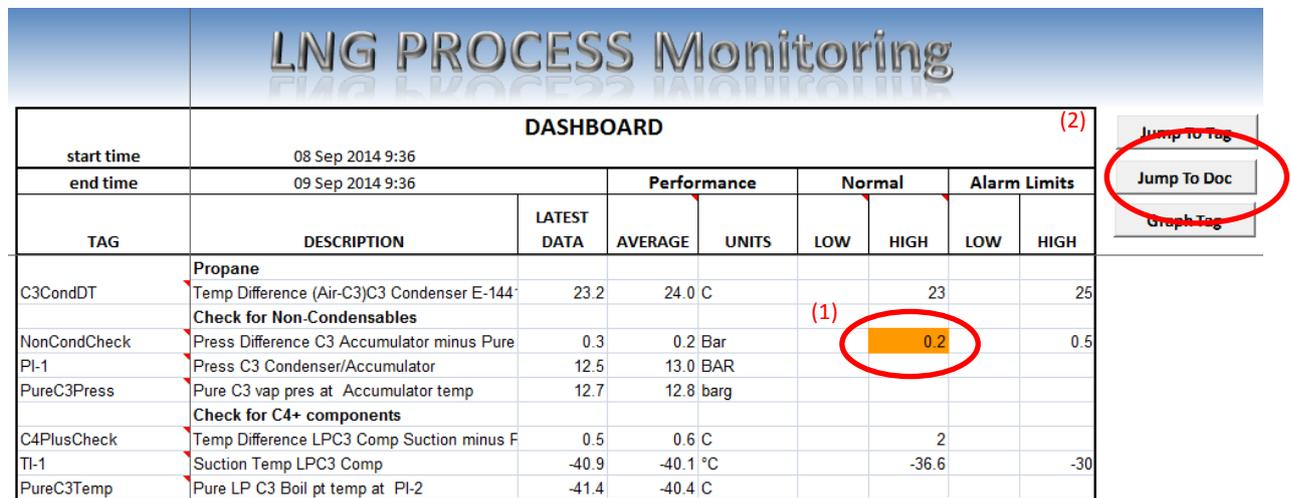
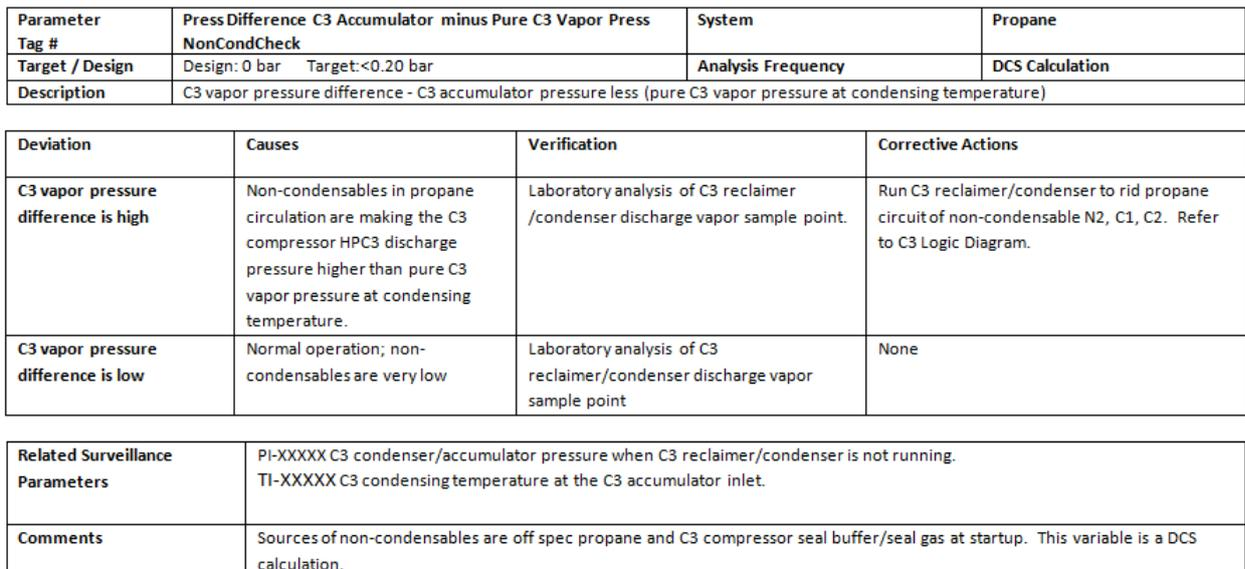

Figure 6
Figure 7
The following example shows how the tool can help to identify a problem in the C3MR liquefaction process and return the plant to optimum performance. The dashboard in Figure 6 monitors the key
parameters in the Propane System refrigeration loop. Each morning the previous 24 hours of data is run to look for any parameters that are outside of the normal operating range. On a particular day the engineer notices that a value is outside of the normal operating range. Figure 6 shows the dashboard relating to the Propane System.
The dashboard shows that pressure difference between the Propane (C3) accumulator and the pure Propane vapor pressure at the accumulator temperature is greater than 0.2 bar. This causes the value to be highlighted showing it is out of the expected operating range (see circled area “(1)” in Figure 6). By selecting the row and then clicking on the “Jump to Doc” button (area (2), Figure 6), the Tag Deviation guide opens (shown in Figure 7).